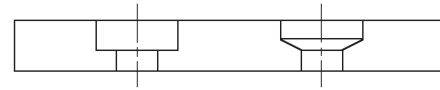

Fig. 11
- 4.3.4.2 Refer to Figure 11 and carefully examine the counterbored holes in the new friction disc. One set of counterbored holes is tapered and designed to accept the rivet head, while the other set of counterbored holes is flat bottomed and designed to accept the clinched end of the rivet.